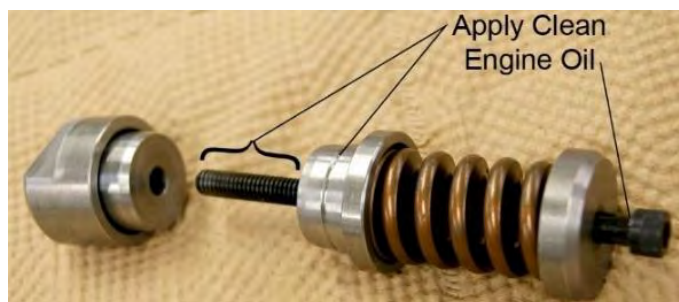

Figure 13
2. Apply a coating of clean engine oil to the threads of the bolt, the shoulder on the center section, and under the head of the bolt of the ST-531 (Figure 13).